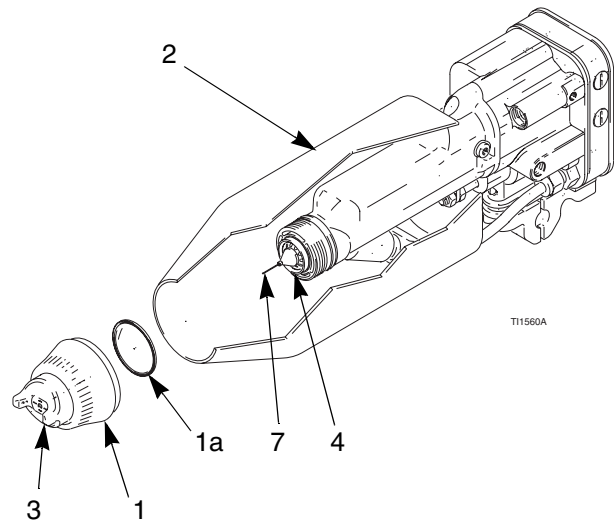

Fig. 13. Clean Air Cap and Fluid Nozzle
2. Remove the air cap assembly (1, 3) and shroud (2). See FIGURE 13.
3. Wipe the fluid nozzle (4), shroud (2), and exterior of the gun clean with a cloth dampened in solvent. Avoid getting any solvent into the air passages. Whenever possible, point the gun down when cleaning it.
4. If it appears that there is paint inside the fluid nozzle (4) air passages, remove the gun from the line for servicing.
5. Clean the air cap (3) with the soft bristle brush and solvent or submerge the air cap in suitable solvent and wipe it clean.